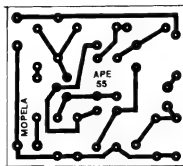

Fig. 2
- FIG. 2 - LAY OUT DO CIRCUITO IMPRESSO ESPECÍFICO